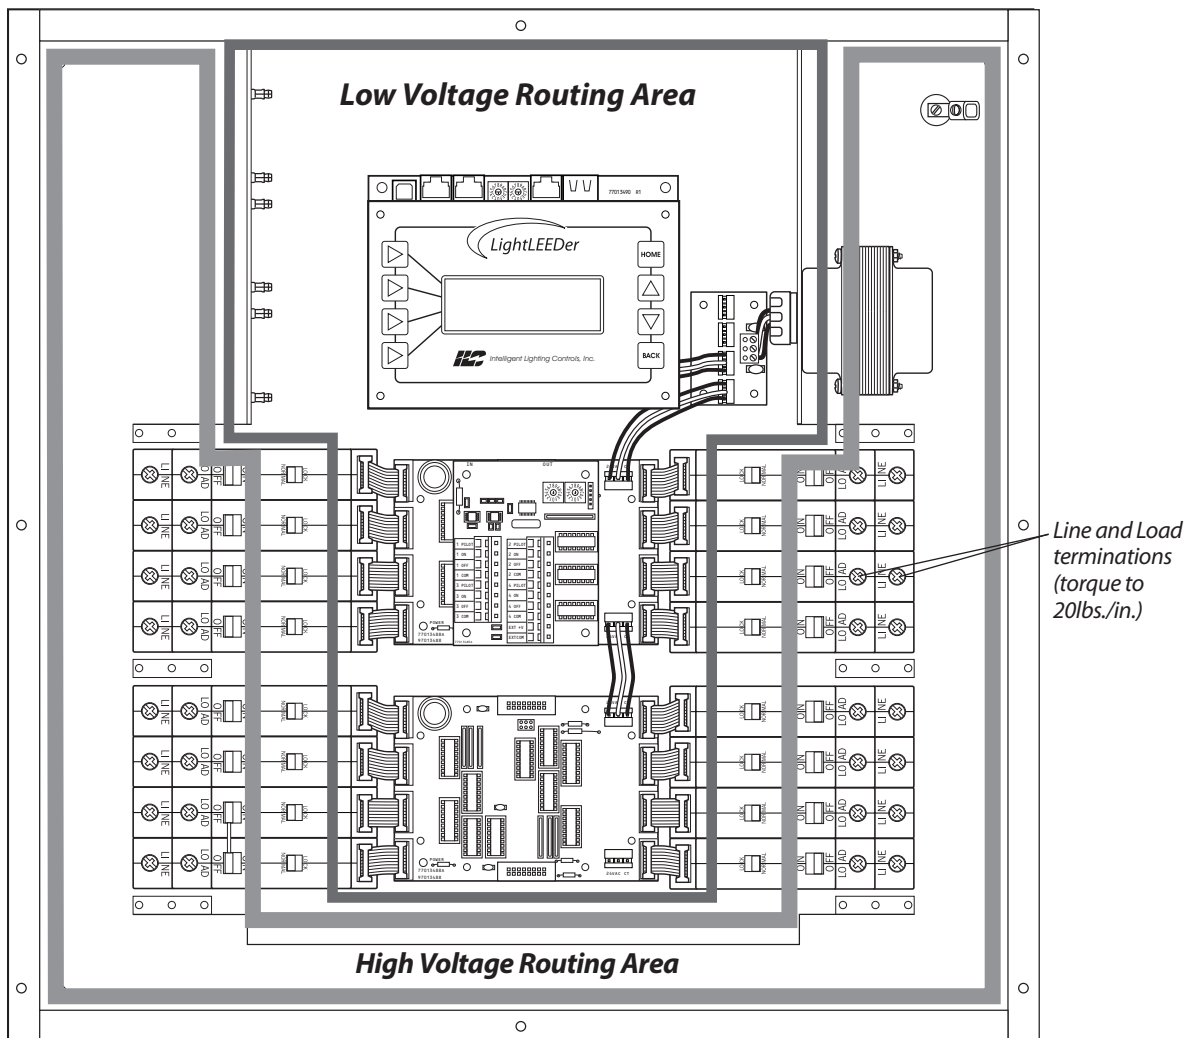

Figure 2.2 – Class2 and HV wiring areas
2.2.2 Line and Load Wires Pull the line wires from the circuit breaker box and the wires from the lighting loads to the enclosure. Be sure to keep the high voltage wires isolated to the high voltage compartment. Connect each line to the appropriate load wire. Power-up the circuits, test for faults and clear any found. After testing each circuit, connect the line and load to the appropriate relay per the schedule. See figure 2.2 for details. Be sure to torque wire terminations to 20 lb. /in.